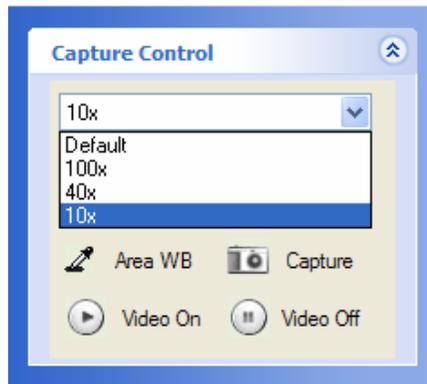

Figure 5: Calibration Choices Prior to Capture
**Step 5:** For future measurements ensure that you choose the appropriate calibration from the drop down list in the *Capture Control* area prior to capturing an image, as shown in Figure 5. This ensures that the proper calibration data has been applied.